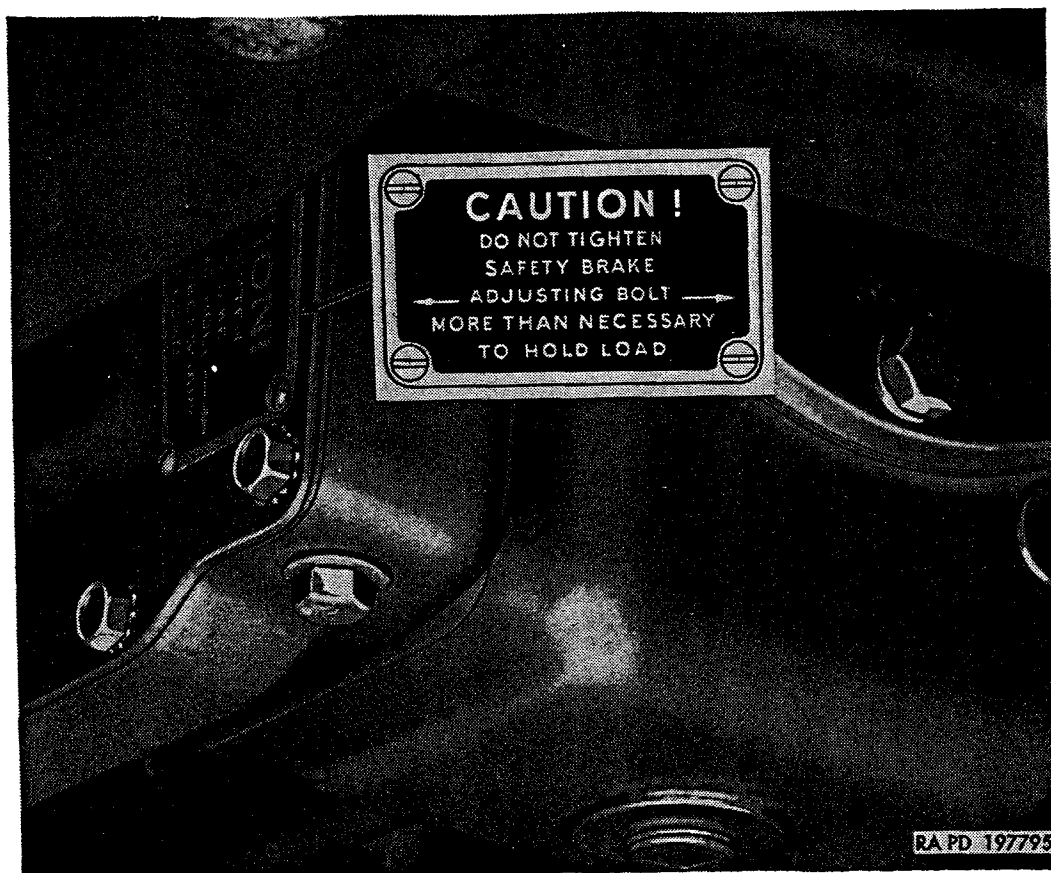
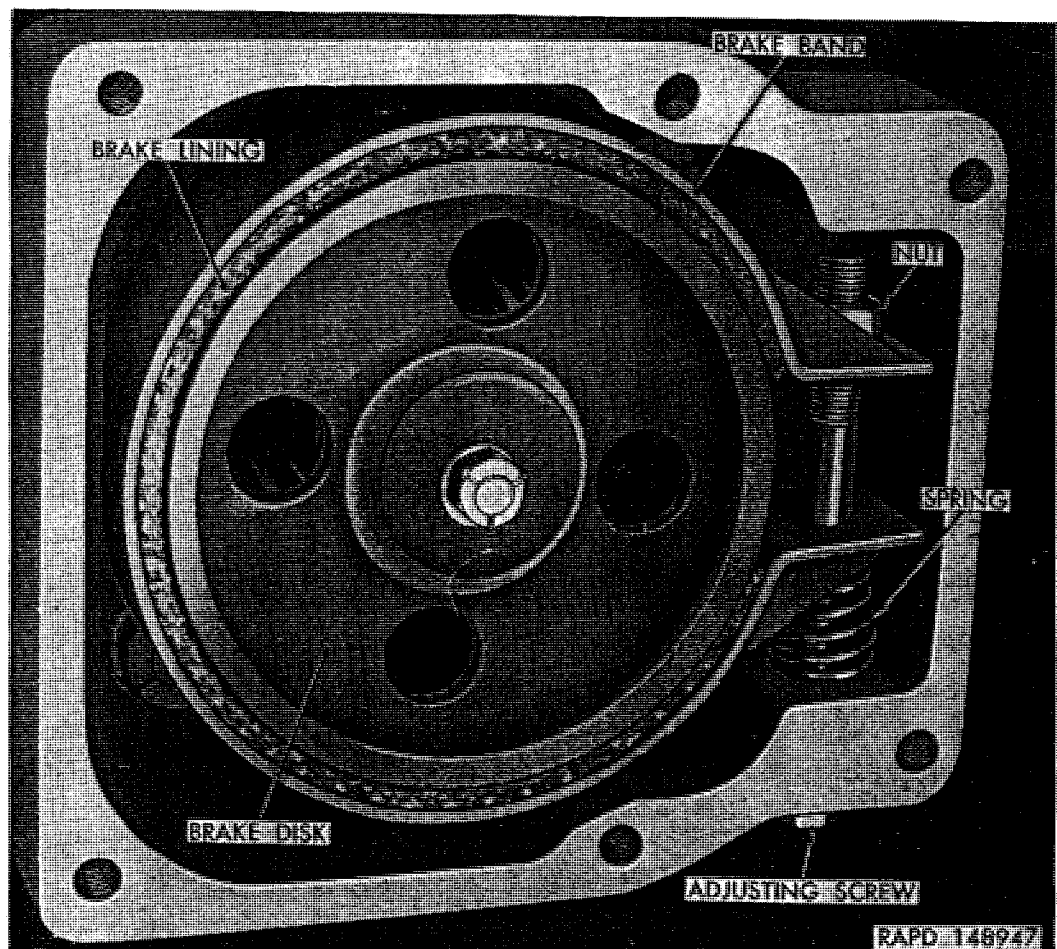

Figure 339. Winch adjustments.
Figure 340. Automatic brake band installed.
clutch control lever is used to engage or disengage the jaw clutch which drives the drum. The drum lock poppet knob is used to lock the drum when winch is not being used. Winch is equipped with two brakes, the drum drag brake and the drive worm automatic brake. The drag brake consists of a flat shoe and lining assembly, spring-loaded to exert a constant drag on end of drum to prevent drum spinning when cable is being pulled off drum. The drive worm automatic brake, which sustains the load when shifting power-take-off gears, consists of an external band type brake which acts on a brake disk (fig. 340) keyed to end of drive worm.
(3) *Automatic brake test.* The most convenient method of testing automatic brake is to tow another vehicle up grade with the winch (par. 49d (2)). Tow vehicle up grade part way, release accelerator, and shift power-take-off lever into CENTER-NEUTRAL position. Vehicle being pulled by winch should not roll backward. If winch will not hold vehicle, adjust automatic brake (*c* below).
b. Drag Brake Adjustment (fig. 339). Turn slotted adjusting screw with offset screwdriver. Screw is located at right side of
c. *Automatic Brake Adjustment* (fig. 339). Adjusting bolt head is located on underside of worm housing at left side. Increase tension of brake by turning adjusting bolt clockwise only one-half turn. Test adjustment (a(3) above).
a. *General.* A caution plate (fig. 339) is attached to automatic brake case cover. In event this caution plate is not on the cover, it must be installed in accordance with instructions contained in MWO ORD G749-W9.
- (1) Remove front bumper (par. 285b).
- (2) Remove three cap screws and washers attaching left cable guard to winch assembly.
- (3) Remove six cap screws and lockwashers attaching brake case cover to brake case. Remove cover and discard gasket.
- (4) Remove adjusting screw, washer, and brake spring (fig. 340). Pull brake band from brake disk.
c. Installation (fig. 340).
- (1) Position brake band on disk.
- (2) Place $\frac{7}{16}$ -inch plain washer on the $\frac{3}{8}$ -24 x 4 adjusting cap screw, then install O-ring gasket on cap screw.
- (3) Position brake spring between case and lower leg of brake band, then insert adjusting cap screw through spring and both legs of brake band. Compress upper part of band with a pry bar until screw engages nut.
- (4) Position cover on case, using new gasket. Attach cover with six $\frac{5}{16}$ -18 x $\frac{5}{8}$ cap screws and external-teeth lockwashers. Tighten cap screws.
- (5) Position left cable guard on winch assembly; then install three $\frac{5}{8}$ -11 x $1\frac{1}{4}$ cap screws and washers. Tighten cap screws.
- (6) Install front bumper (par. 285*c*).
- (7) Adjust automatic brake (par. 316*c*).